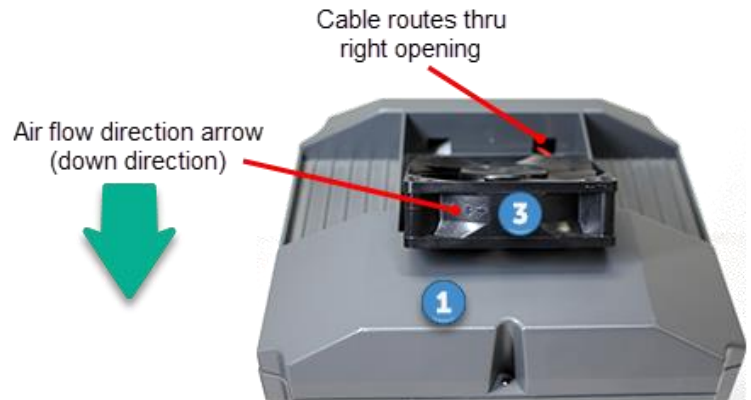

Figure 2
- 8 The new fan must be installed so the air flow is directed into the MC housing. Install the fan so that the air flow indicator arrow points into the MC housing (see fig.2). The new fan cable routing has changed. Feed the power cable thru the right cable housing opening (not the left opening) and install the new fan 3 (see fig. 2).